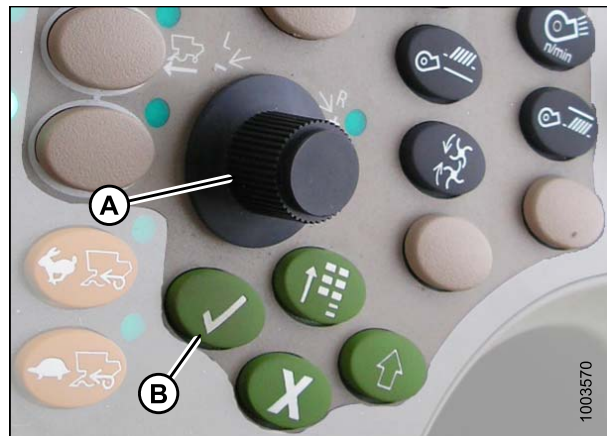

Figure 5.157: John Deere Combine Control Console
7. Select HEADER in box (A) by scrolling down to the box using the scroll knob, and then pressing the check mark button (knob and button are shown in Figure 5.157: *John Deere Combine Control Console*, page 212).
8. Scroll down to the lower right icon that resembles an arrow in a diamond (B) and press the check mark button to select it.